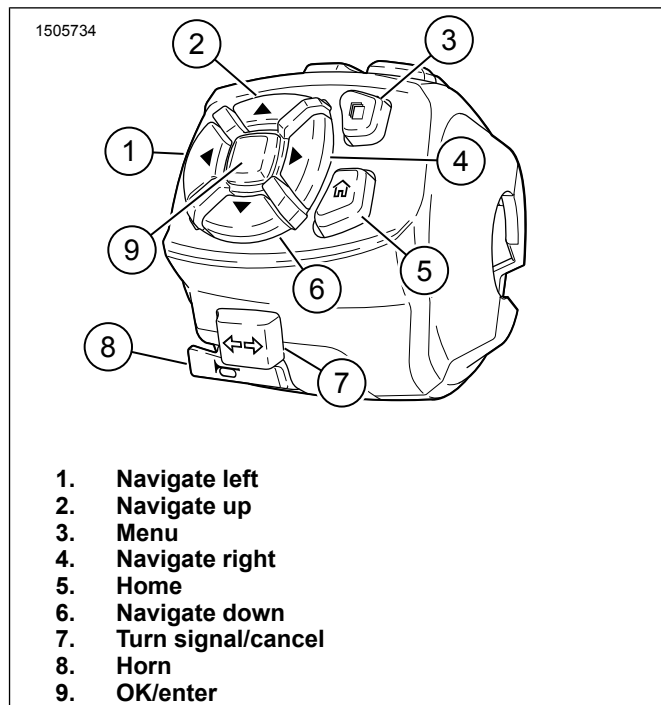

Figure 11. LHCM - Bottom
See Figure 11. With low beam active, press and hold the navigate up (2) until fog light control appears on IM. Release button and press again to switch between on and off. Press OK/enter (9) to exit menu.